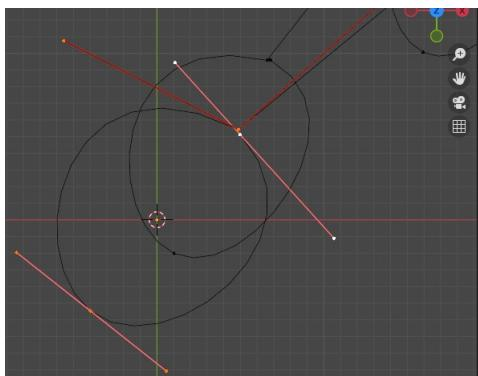

Figure 3-10 Sharp bend between sail and mast using Free Handle type
12. Change the control point where the sail meets the mast so the curve can bend sharply using **Control Points ▶ Set Handle Type ▶ Free** as shown in the detail of Figure 3-10.